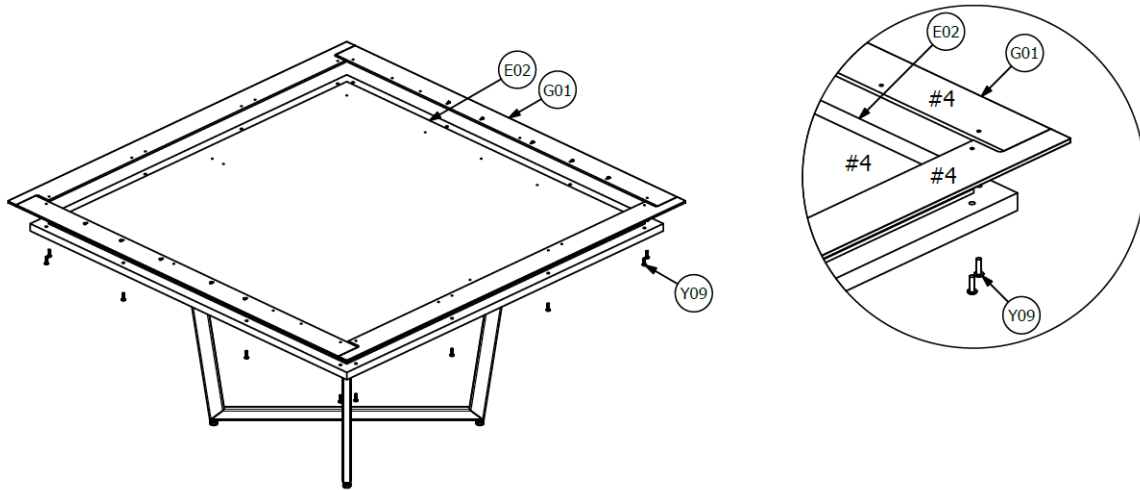

FIGURE 05: EDGE TRIM ASSEMBLY
1. Layout Edge Trims (G01) around Subtop matching the numbers marked on both, making sure the numbers always face up. See Figure 05.
2. Secure Edge Trims to Subtop from underneath using Fastener (Y09) into threaded holes of Edge Trim. See Figure 05.